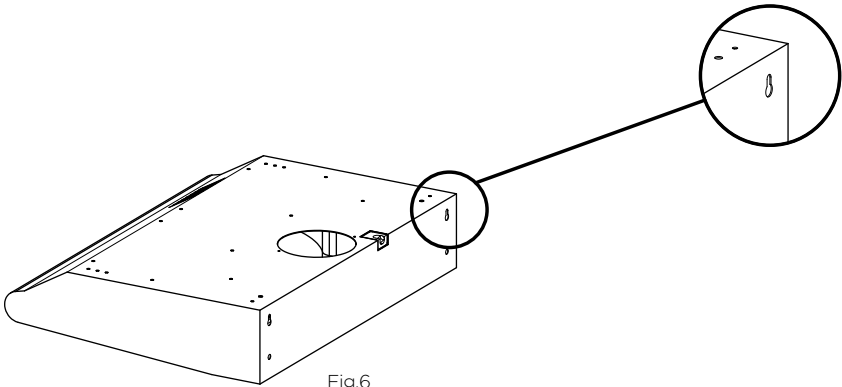

Fig.6
- Hang the rangehood off the upper rangehood mounting screws with 2 mm gap. Hang off the keyhole attachment points on the back of the rangehood (see Fig.6) then tighten the screws.